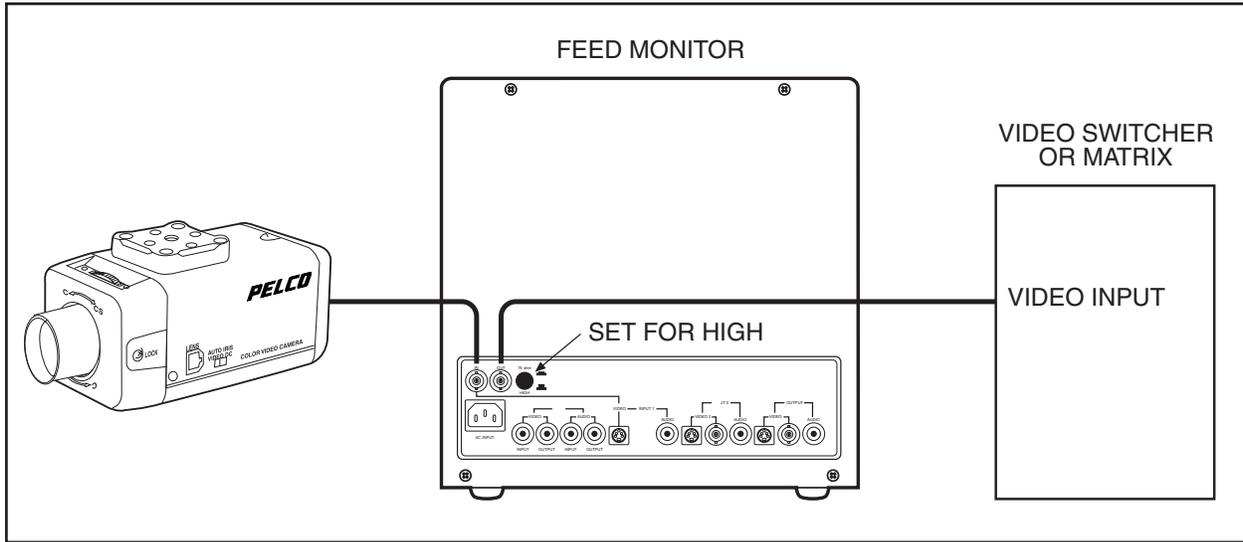

Figure 5. Dedicated Monitor Application with No Control
1. Refer to Figure 5. Connect the video cable from the camera to the IN connector of Input 1 on the feed monitor. Connect another video cable from the OUT connector of the feed monitor to the video switcher or matrix control equipment.